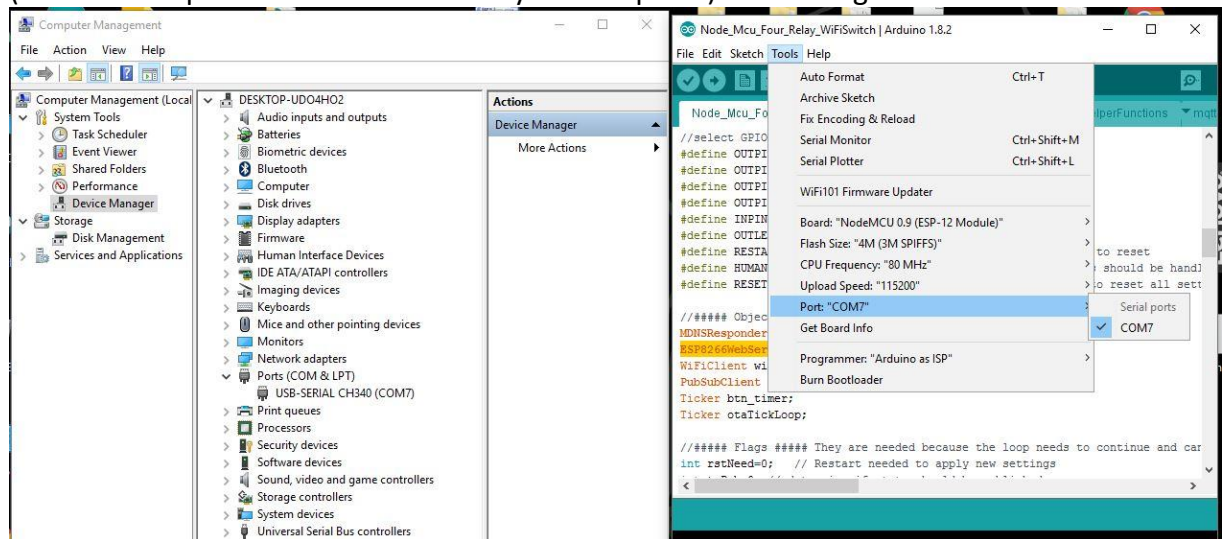

Figure 6: COM port selection.
- Click on tools tab, move mouse pointer to "Port: "COMx", under this click on "COMx" to select. ("x" refers to port number available in your computer) Refer to figure 6.